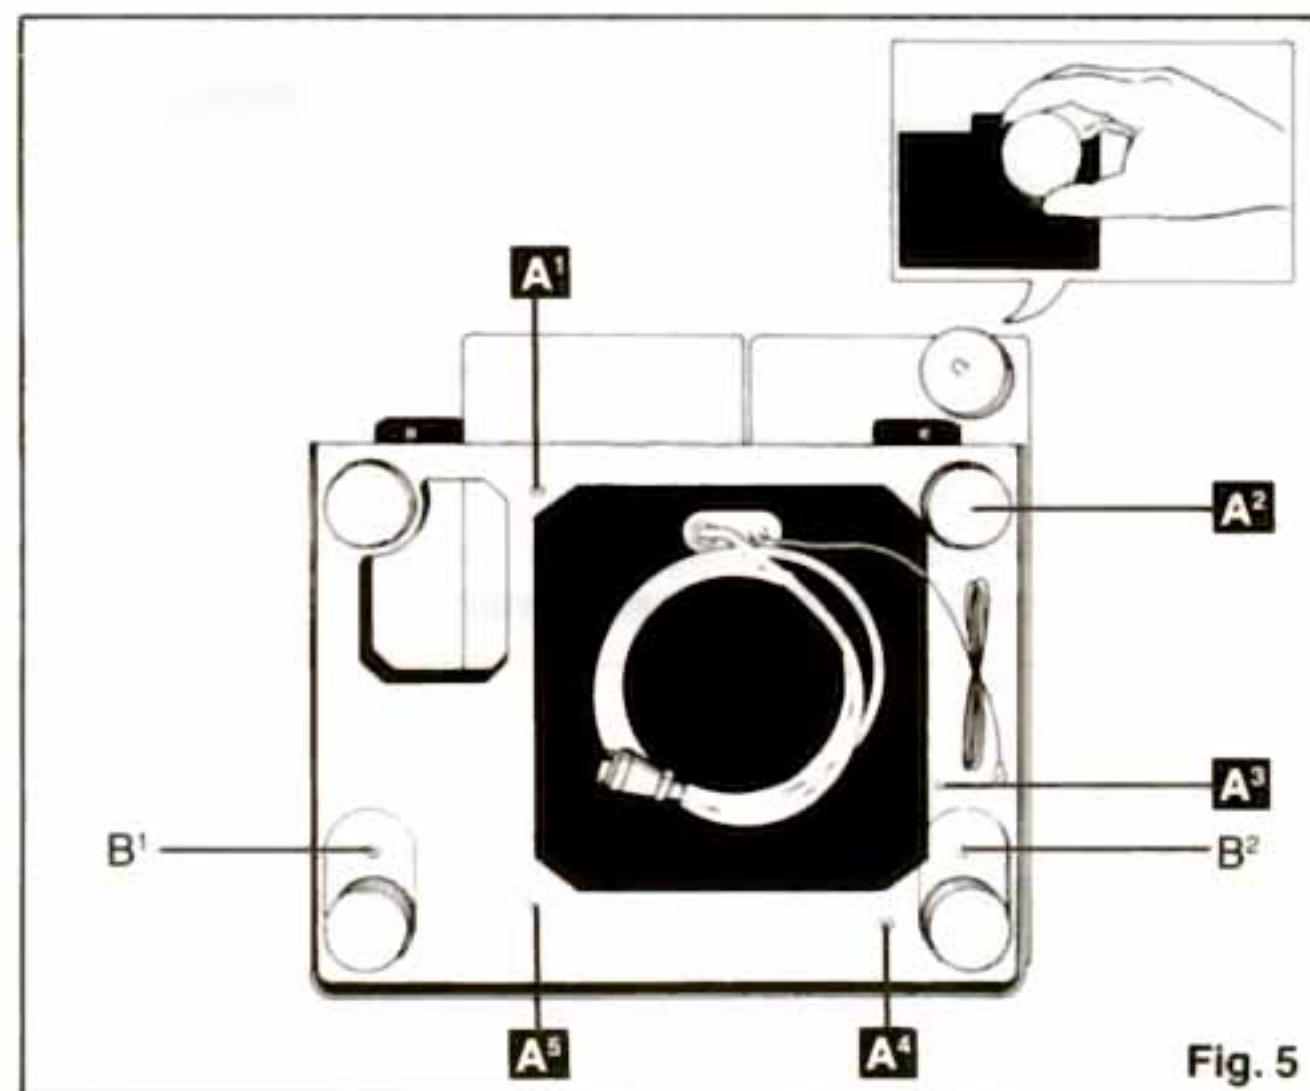

Fig. 5
④ Remove the upper right insulator/leg (Fig. 5).
⑤ Fit washers onto this unit's installation screws (M5×35) and screw in securely at the five points A¹~A⁵. (Refer to Fig. 5.)
Two of the insulator/legs can be attached at the points B¹ and B² if necessary to match the size (front to rear) of the installation location. (Refer to Fig. 5.)